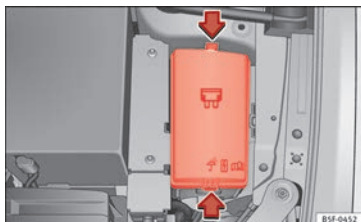

Fig. 101 In the engine compartment: fuse box cover
- Press the locking tabs to release the fuse box cover » **Fig. 101**.